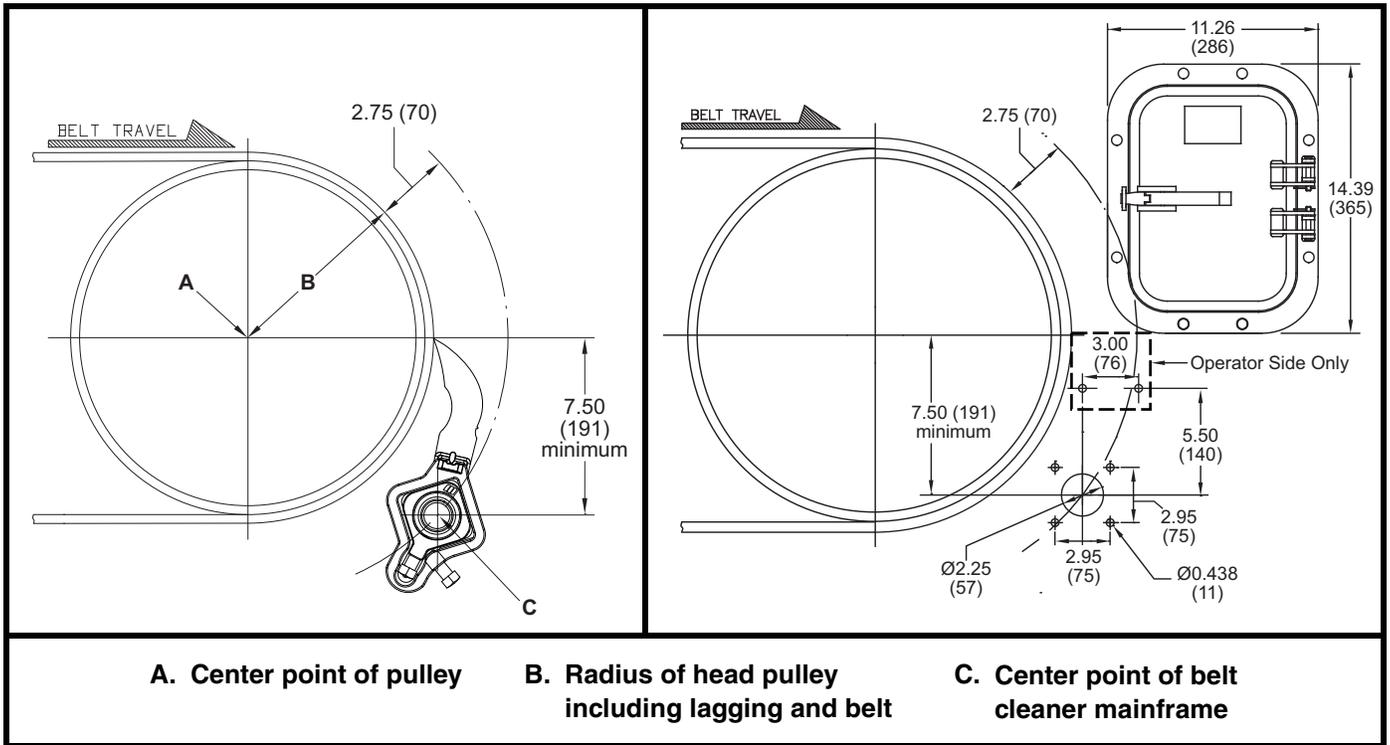

Figure 4. Belt Cleaner Mainframe Location & Chute Wall Cutouts for Martin® QB1™ Cleaner PV with Martin® Spring Cable Tensioner
1. On operator side of chute, find pulley center point (A).
2. Measure radius of head pulley including lagging and belt thickness (B). To this dimension, add 2.75 in. (70 mm).
3. Starting from center point (A), measure the total distance calculated in step 2 (B + 2.75) and draw an arc on chute wall.
4. Measure down from pulley's horizontal centerline the distance shown in Figure 4 and draw a horizontal line parallel to it. Locate center point of belt cleaner mainframe (C) where this line intersects the arc on the chute wall.